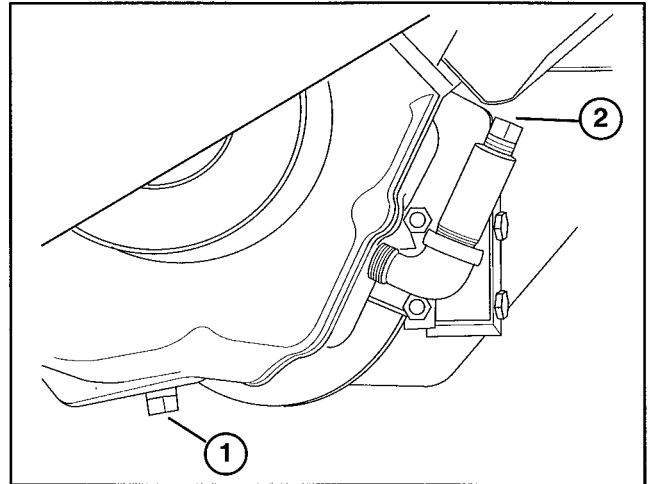

Figure 34
1. Place a drain pan below drain plug on axle. Clean area around drain plug (Fig. 34).
3. Remove fill plug (Fig. 34) and pour approx. 64 oz. of SAE E.P. 90 wt. oil into extension tube. Stop when oil level reaches top of tube.